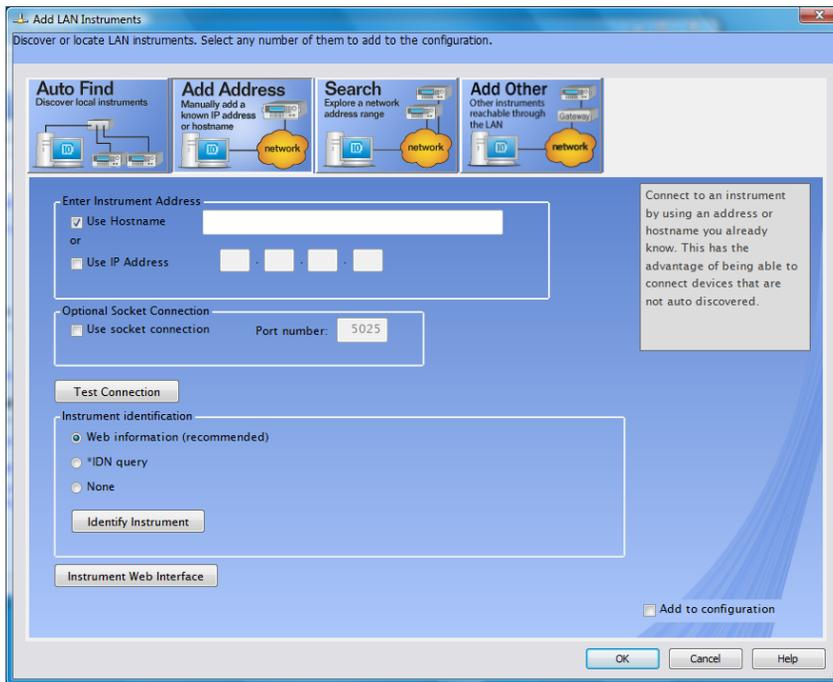

Figure 32 Add LAN Instruments Add Address Dialog screen
- 1 From the Add LAN Instruments screen, select the Add Address tab. (Figure 32).